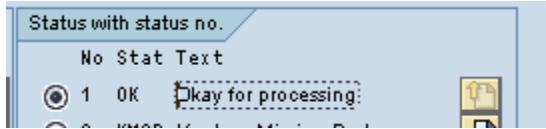

Fig. 23
10.7. Change the status by selecting the radio button next to "OK Okay for processing" (Fig. 23)